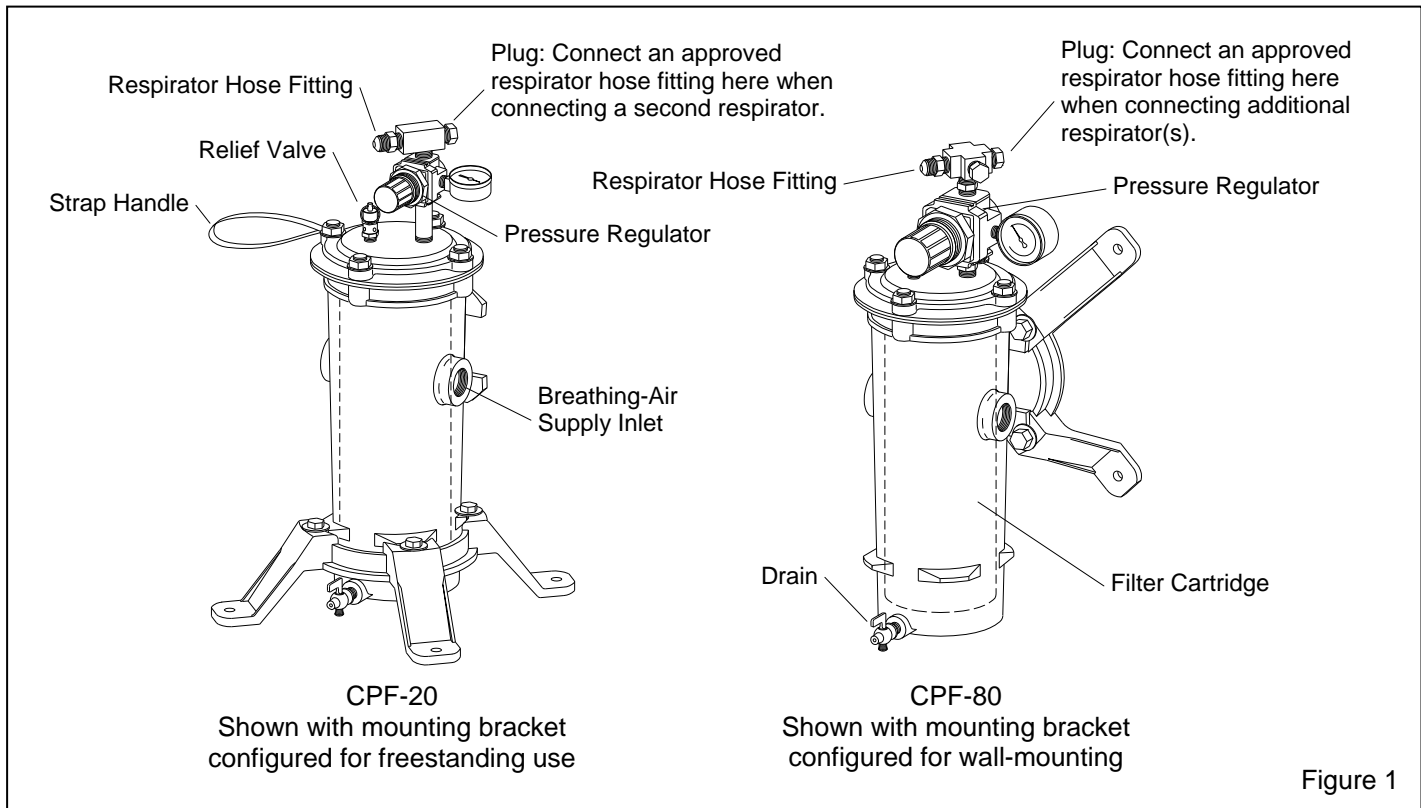

Figure 1
**1.4.2** The main components of the filters are shown in Figure 1. The CPF-20 is equipped with an outlet that